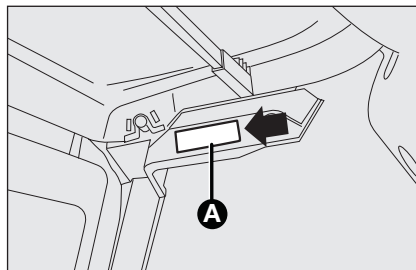

fig. 28
- ☐ using the screwdriver provided, extract the roof light **A**-fig. 28 working in the point shown.